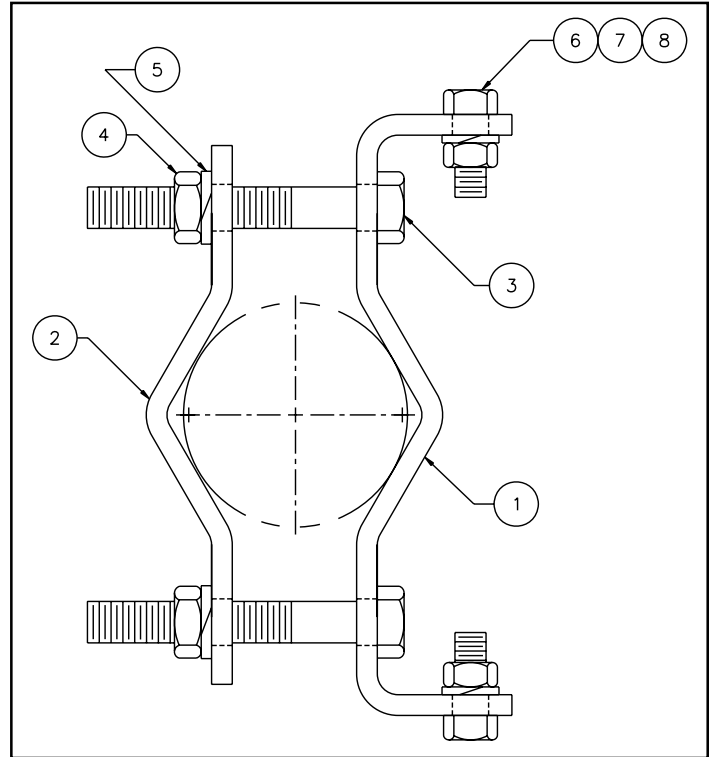
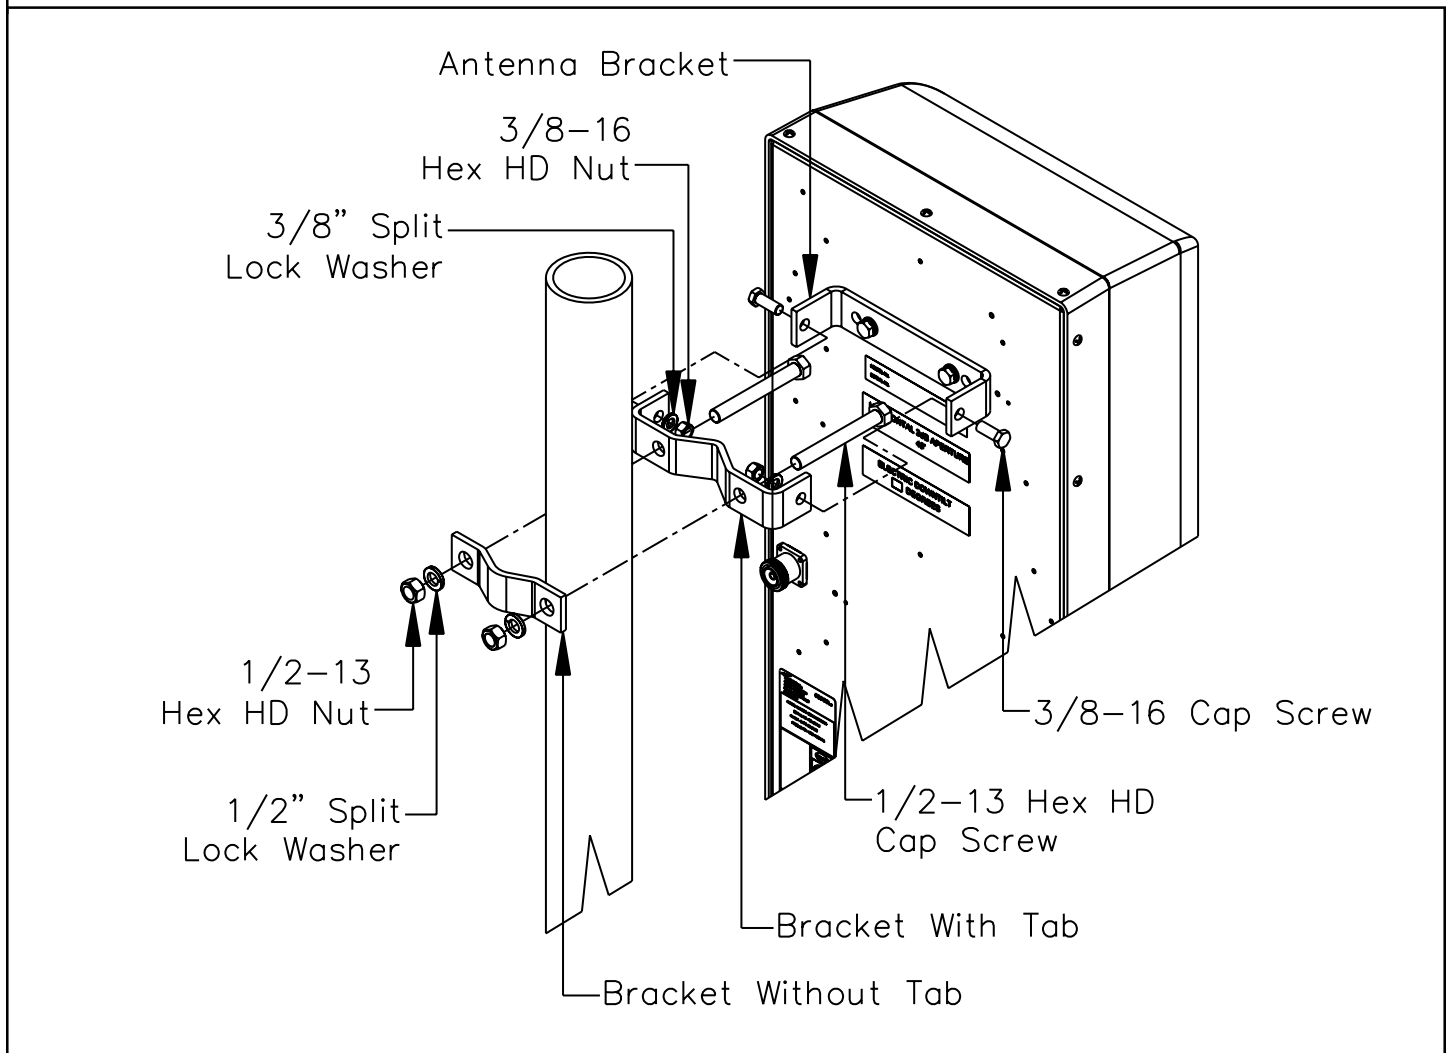

Figure 1. Assembled DB380/DB380-3 Pipe Mount Clamp.
Figure 2. Mounting Antenna to Mast Using DB380/DB380-3 Pipe Mount Kit.
4. Insert the 1/2–13 hex head cap screws into the pipe brackets with tabs (Items 1 and 3, Table 1, Figure 1) as shown in Figure 2.
6. Attach the pipe brackets with tabs to the brackets on the back of the antenna using the 3/8" split lock washers and 3/8–16 cap screws and nuts (Items 6 through 8, Table 1, Figure 1) as shown in Figure 2. Tighten hardware using two 3/8-inch hand wrenches to 20 ft-lbs.
8. Bring the antenna into position on the tower. From the other side of the tower, feed the pipe brackets without tabs (Item 2, Table 1, Figure 1) onto the 1/2–13 hex head screws. Secure with the 1/2" split lock washers and 1/2–13 nuts (Items 4 and 5, Table 1, Figure 1). Refer to Figure 2.